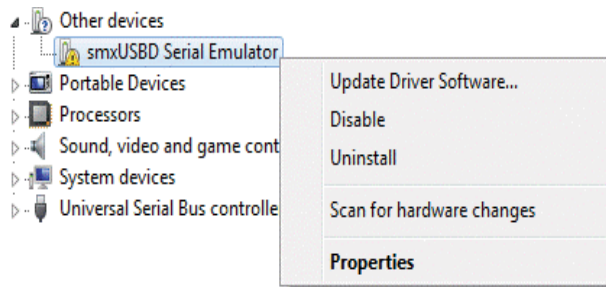

Figure 80 Device Manager Windows 7
3. Under **Other devices**, right click on **smxUSBD Serial Emulator** and select **Update Driver Software** (Figure 80).